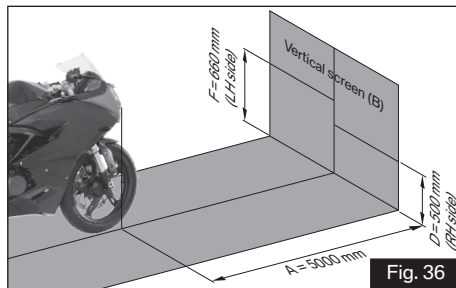

Fig. 36
- ◆ Place the motorcycle upright in a uniform flat surface while ensuring the head lamp center (A) is 5 meter away from a vertical wall or screen (B). (ref. Fig. 36)
- ◆ Adjust the RH side projector lamp adjuster (C) clockwise (Downward) or in anti-clockwise (Upward) and match the low beam cut-off line to the marking line (D) (500 mm) on a vertical wall or screen. (ref. Fig. 36 & 37)
- ♦ Adjust the LH side projector lamp adjuster (E) clockwise (Downward) or in anti-clockwise (Upward) and match the low beam cut-off line to the marking line (F) (660 mm) on a vertical wall or screen. (ref. Fig. 36 & 37)